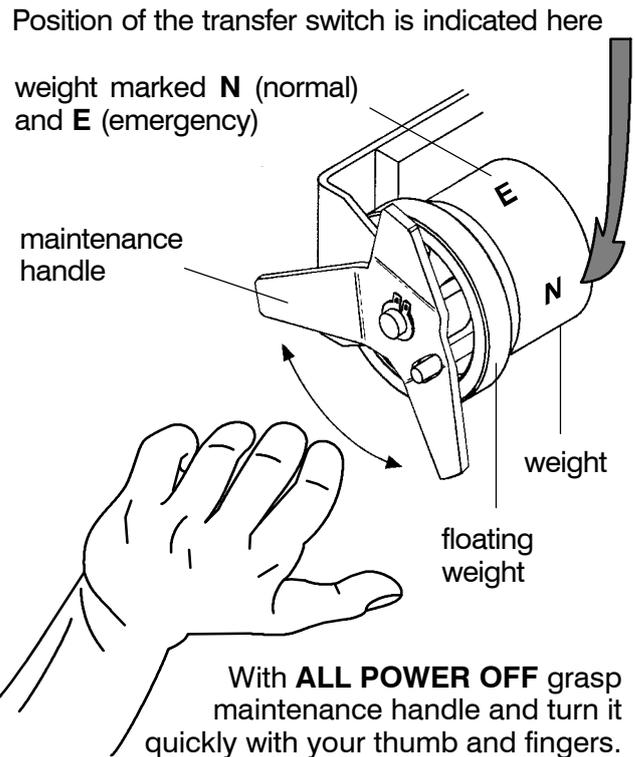

Figure 1-6. Maintenance handle and positions.
1. After deenergizing both power sources, open the enclosure door. Locate and the maintenance handle on the left side of the transfer switching device. See Figure 1-6.